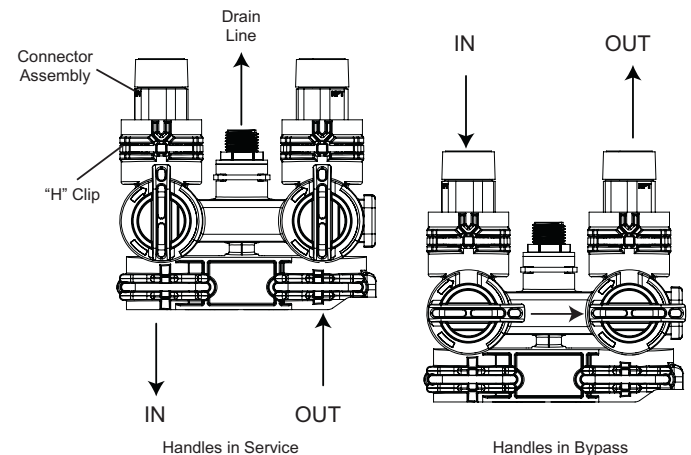

Figure 9 Bypass Operation
**IMPORTANT:** When the valve is in bypass, water will not enter the softening tank. The water in the building will not be treated. Figure 9 Bypass Operation, shows the handles in the service position.